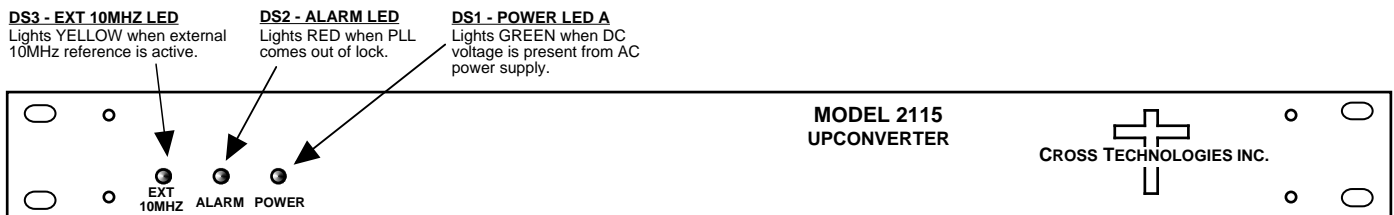

FIGURE 2.2 2115-211-3250 Front Panel Controls and Indicators
4. Be sure DS1 (green, DC Power) is on and DS2 (red, Alarm) is off (Figure 2.2).
6. If EXT is selected or AUTO is selected and there is a 10MHz, 3 dBm signal at J2, check that DS3 (yellow, Ext 10MHZ) is on (Figure 2.2).